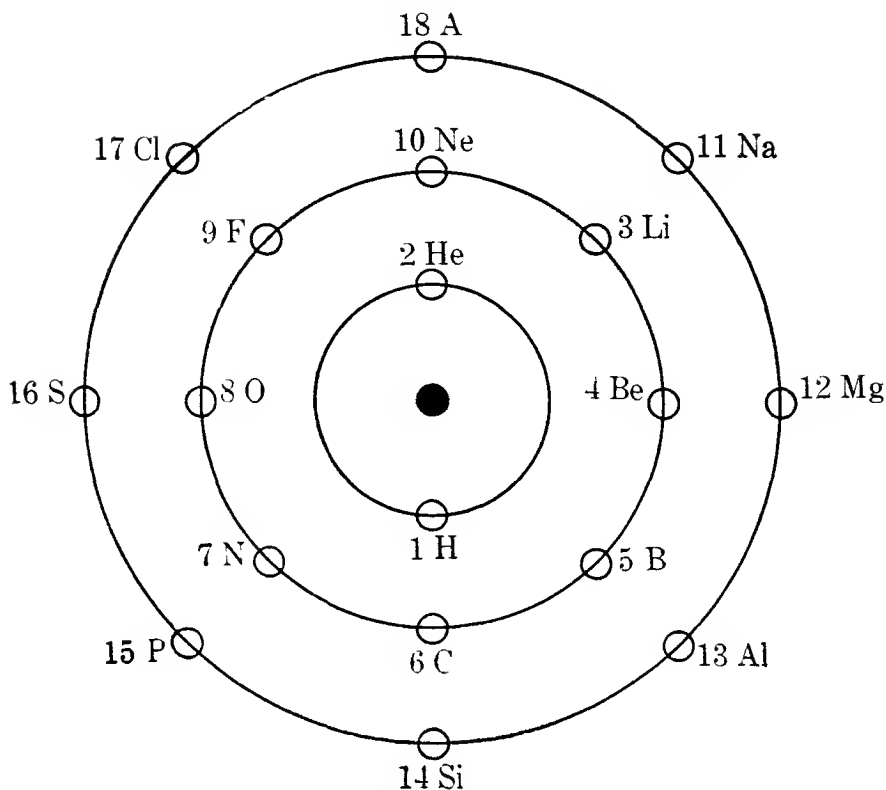

Figure 22. Free Electrons of First Eighteen Elements
Possibly we shall understand the relation of the elements to each other more quickly, if we make a single diagram, figure 22, embracing the first eighteen elements, designating each by its symbol and showing the number of its free electrons. We see that there are two electrons in the first ring, eight in the second and eight in the third. We shall soon understand the remarkable significance of the number and arrangement
**Phosphates.** One of the most active of the elements is phosphorus. Why? Refer to the diagram, figure 22, and you will find that it has five electrons in the third ring, and we have repeatedly seen that such an atom is constantly reaching out to the atoms of the metals to complete its ring of eight. It is not surprising, therefore, that we find many metals combining with it and oxygen to form the class of *phosphates*. We certainly ought to be familiar with phosphates, for we carry one of these around with us all of our lives, as our bones are chiefly calcium phosphate. Any farmer who uses fertilizers is familiar with "phosphate," of which the great chemical works prepare for him millions of tons annually. Its occurrence in nature is chiefly as the rock *phosphorite*, by many regarded as a variety of the mineral apatite, by others classified with collophanite.